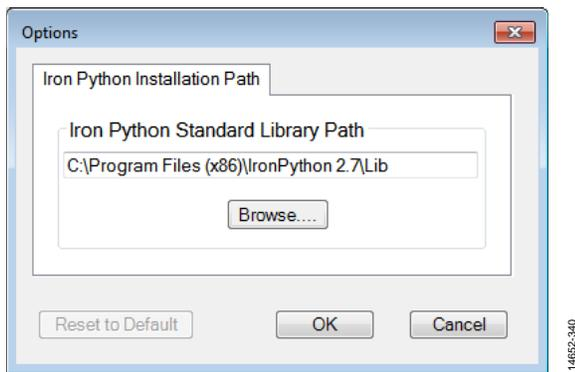

Figure 213. TES Options Window
- **Options** allows the user to configure a path to the Iron Python library folder (see Figure 213). This setting is automatically populated with the path set during the installation process.